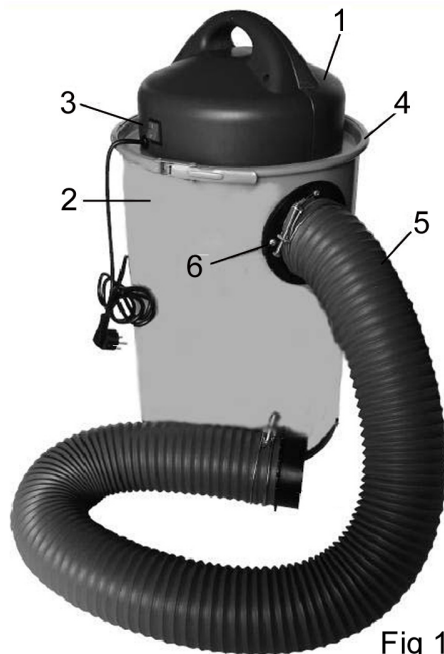

Fig 1
1. Place filter cartridge (1) into filter bag (2).
3. Push the filter cartridge (1) complete with bag (2), onto the fan housing part of the motor casing (3).
4. Sit the entire motor casing on the container and secure with the locking strap as shown in Fig 1.